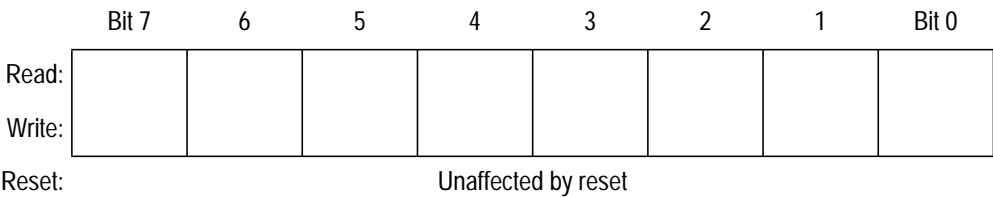

Figure 3-3. Index Register (X)
In the indexed addressing modes, the CPU uses the byte in the index register (X) to determine the effective address of the operand. (See 10.3.5 Indexed, No Offset, 10.3.6 Indexed, 8-Bit Offset, 10.3.7 Indexed, 16-Bit Offset.) The 8-bit index register shown in Figure 3-3 can also serve as a temporary data storage location.